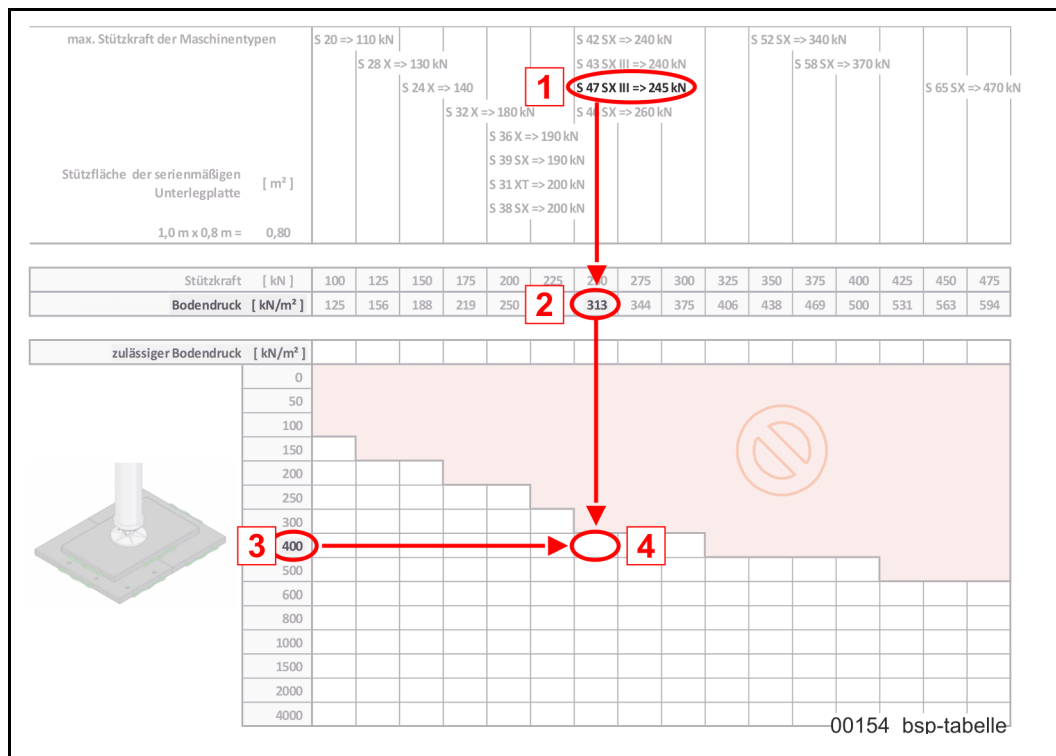

Fig. 132 Example table for an S47SX
(Fig. 132) shows an example of how to use the tables.
In the text below, the positions of (Fig. 132) from (1) to (4) are given in the required order.
3. Find the table column in which your machine appears (1).
Legend for (Fig. 132)